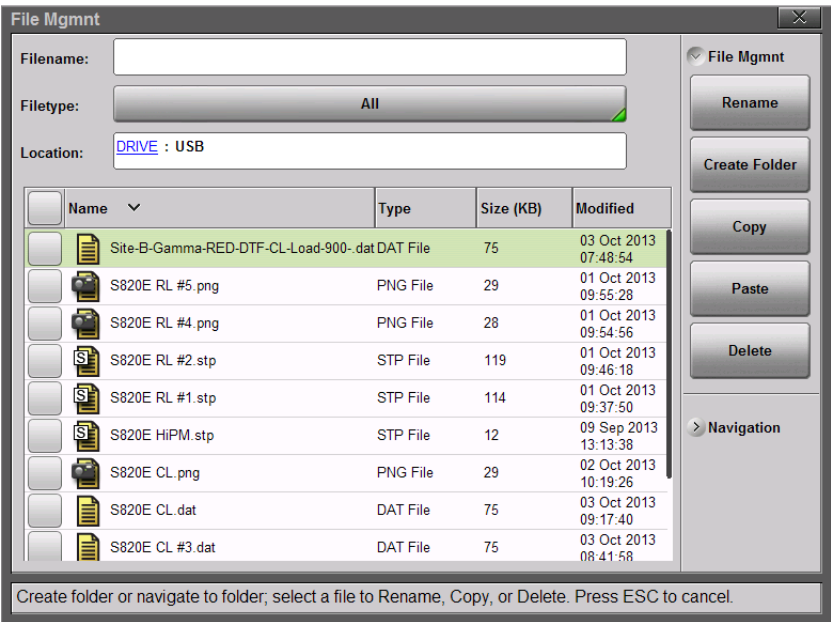

Figure 10-17.Files Pasted to the External USB Drive
6. Select Paste to copy the selected files and folders from Internal memory to the USB drive (Figure 10-17 on page 10-21).